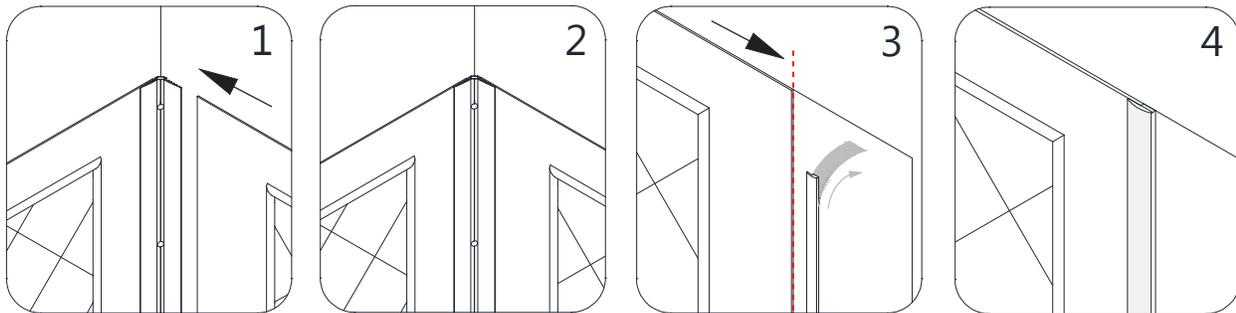

Fig 19a
19. Slide the edge of the **Side Panel (#01)** behind the **Corner Cover (#04)** and push the **Side Panel (#01)** flat against the wall up to the vertical reference line toward the outside of the tub (**Fig. 19a.3**). Align the top of the **Side Panel (#01)** with the **Back Panel (#02)** before the adhesive sets. Apply equal pressure to the whole surface of the **Side Panel (#01)** from top to bottom.
*Peel off the adhesive tape on the back side of the **Decorative Edge Molding (#03)** and attach it to the front edge of the **Side Panel (#01)**. Apply pressure to the **Decorative Edge Molding (#03)** from top to bottom. (**Fig 19a**)